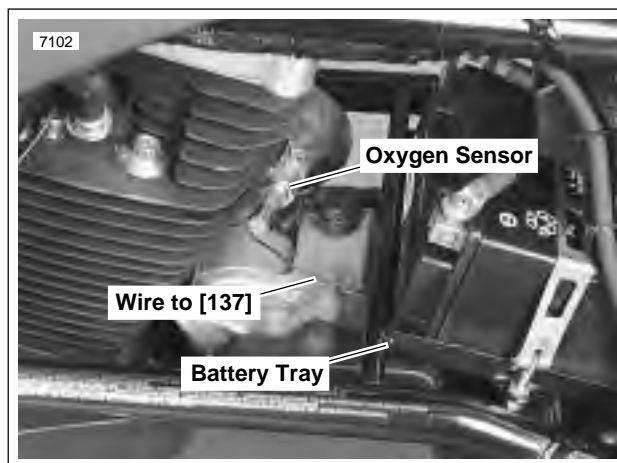

Figure 4-73. Installed Oxygen Sensor
1. See Figure 4-73. Unplug 1-place connector [137] under battery tray.
2. See Figure 4-73. Thread sensor into exhaust header. Tighten to 42-45 ft-lbs (57-61 Nm).